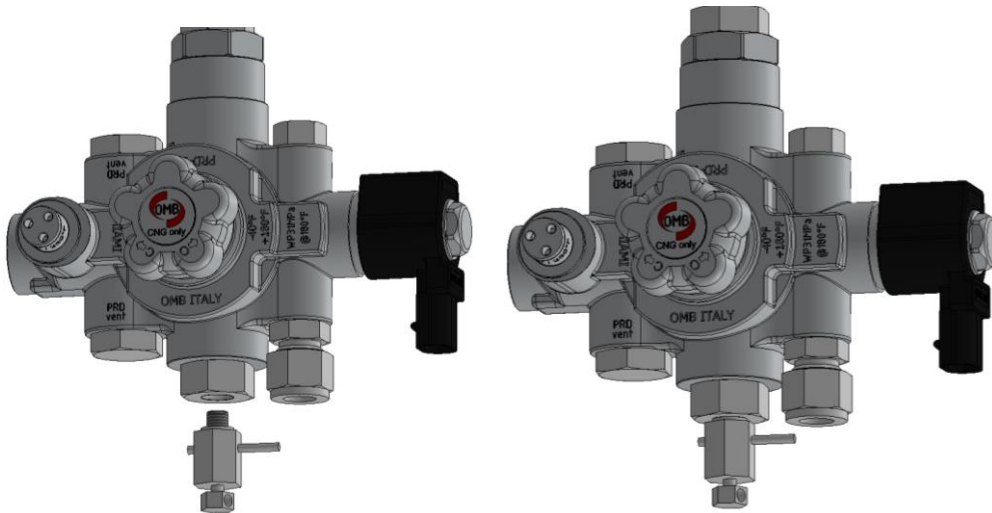

Figure 4. Install the bleed valve into the adapter.
- c. Install the bleed valve into the adapter as shown in Figure 4. Although space is limited, there should be enough room to install the bleed valve without removing surrounding tubes.